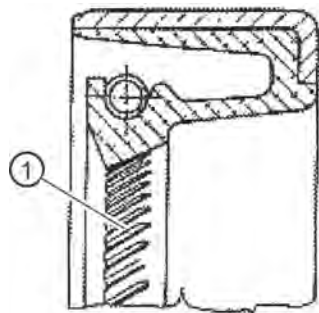
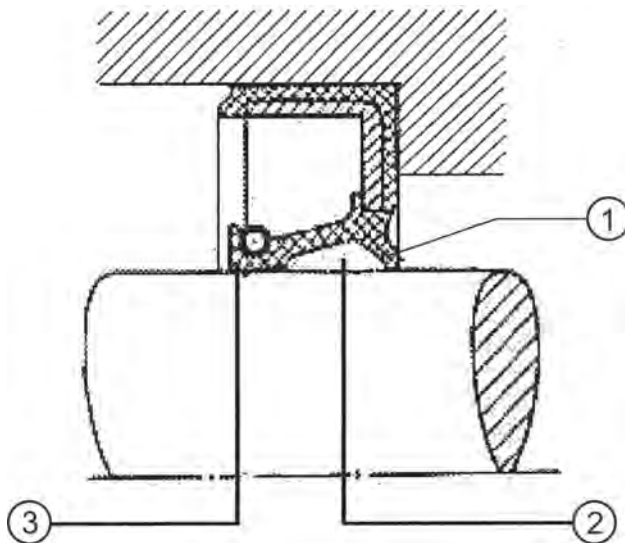

Figure 8: Rotary shaft seal with swirl rib on the sealing lip
Figure 9: Rotary shaft seal with grease filling
11. Caution: If a rotary shaft seal with a protective lip (Figure 9) is used, do not fill the space between the protective lip and the sealing lip with grease in a seal with swirl (Figure 8), as otherwise the hydrodynamic reverse conveyance mechanism will be disrupted.